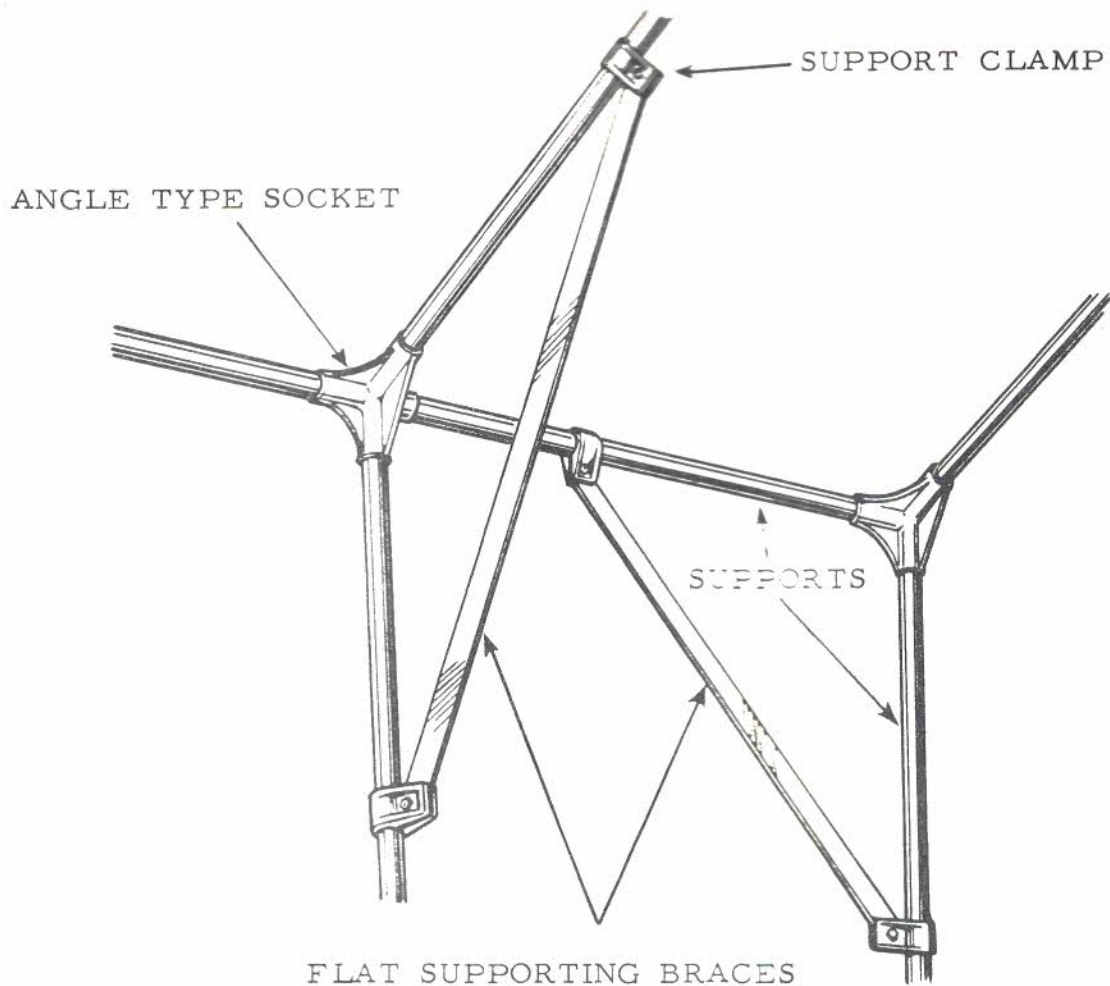

FIG 8 - USE OF FLAT SUPPORTING BRACES
10. The flat braces are used in a similar manner to the tubular locking braces described in paras 6 to 8, and use the same support clamp with its nut, bolt, and washers. (See Fig 8).